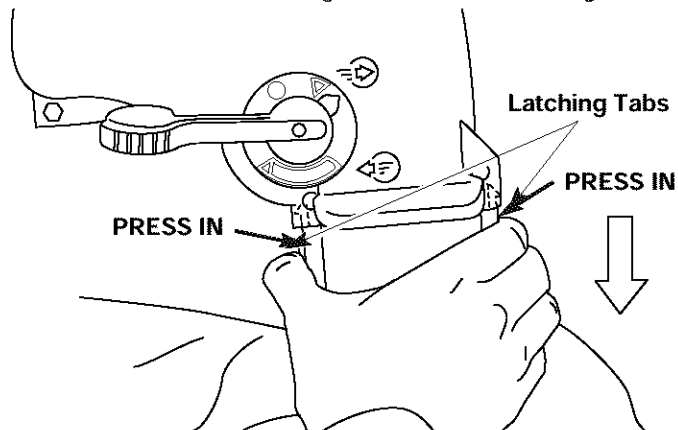

Fig. 5
1. Press the latching tabs on both sides of the vacuum bag tube and pull the vacuum bag down from the unit (Fig. 5).